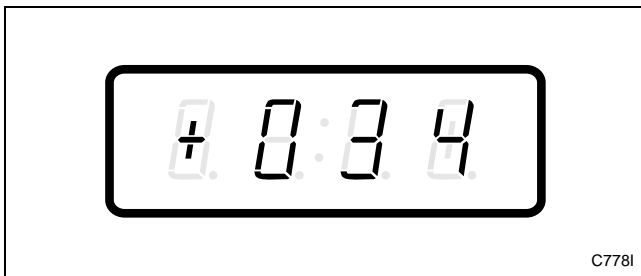

Figure 49
3. Press the DELICATES (+) or the COLD (-) keypad to scroll through the programmable options until “+034” appears in the VFD. Refer to *Figure 49*.